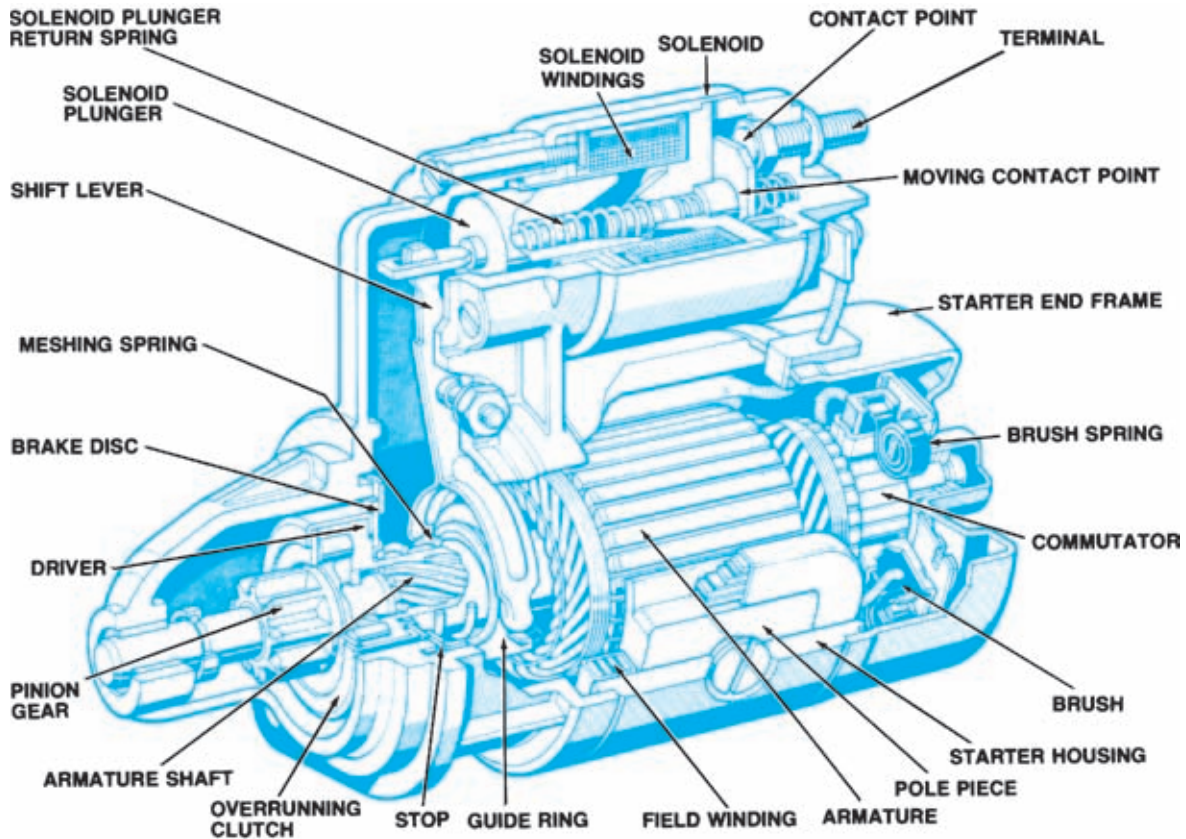
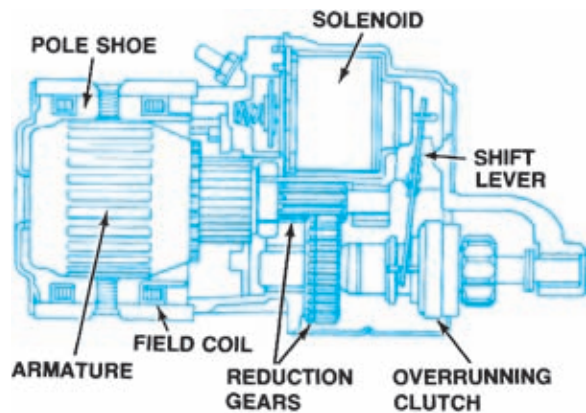

Figure 9-39. Starter motor cutaway.
Figure 9-40. The Chrysler reduction-gear starter motor. (DaimlerChrysler Corporation)
Starter motors, as shown in Figure 9-39 are direct-current (DC) motors that use a great amount of current for a short time. The starter motor circuit is a simple one containing just the
The starter motor cranks the engine through a pinion gear that engages a ring gear on the engine flywheel. The pinion gear is driven directly off the starter armature (Figure 9-39) or through a set of reduction gears (Figure 9-40) that provides greater starting torque, although at a lower rpm.